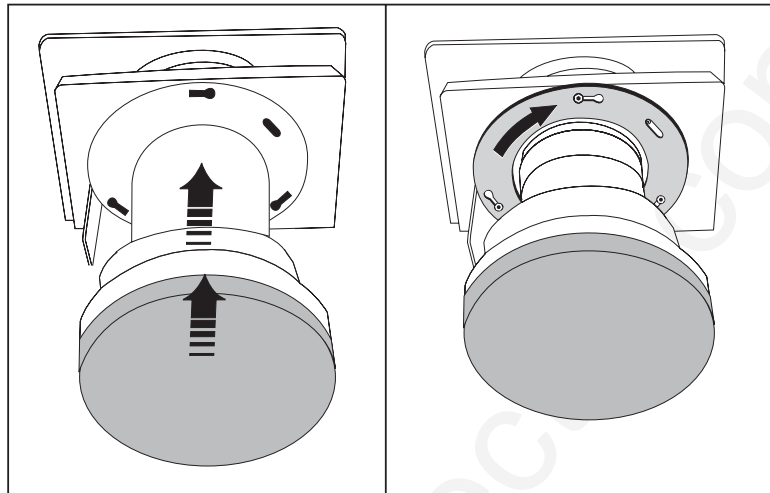

Figure 4.14. Insert Lens and Rotate (FIXED LENS SHOWN)
- **INSERT LENS:** The 3 slots on the lens flange align with the 3 lens mount screws—insert the lens so that screw heads slip through the *large* ends of the flange holes. See Figure 4.14.
- **ROTATE LENS:** Rotate the lens barrel clockwise until the screw heads lock into the *small* ends of the lens assembly slots. See Figure 4.14.